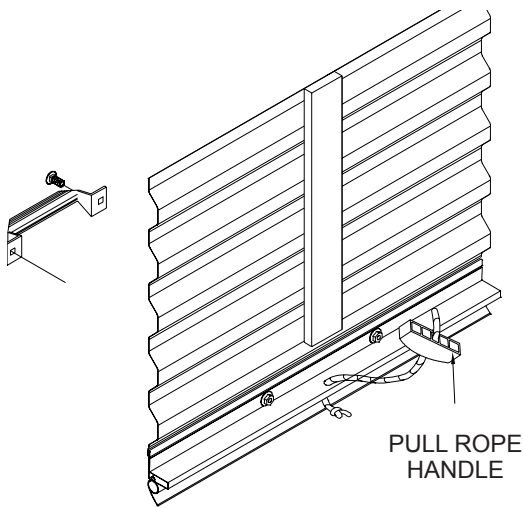

Figure 9
8.1 Pull rope handle: Tie a knot in one end of the rope. Slide the plastic handle onto the rope and pull the knot up into the handle. Pass the other end of the rope through the hole in the center of the bottom edge of the door and tie another knot in the end to keep the rope from pulling through (See Figure 9).